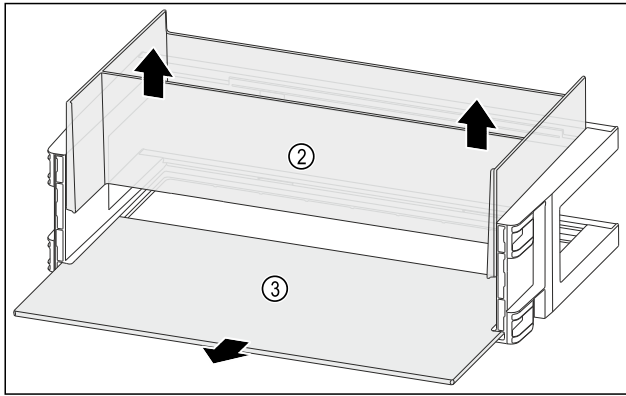

Fig. 91
- Remove the organiser Fig. 91 (2) upwards.
- Remove the shelf Fig. 91 (3).